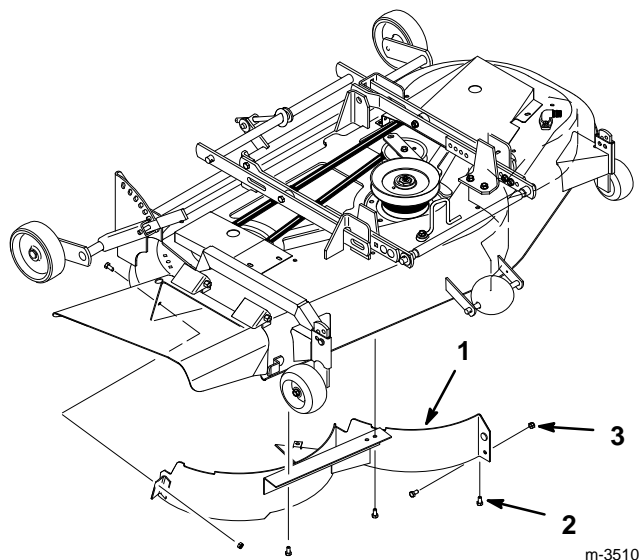

Figure 23
1. Remove lock nuts from top, discharge side and center flange of right side baffle (Fig. 23). Lower baffle and slide out discharge opening to remove.
2. Install previously removed 5/16–5/8" (16 mm) bolts and 5/16" lock nuts in open holes of mower for safety (Fig. 23).